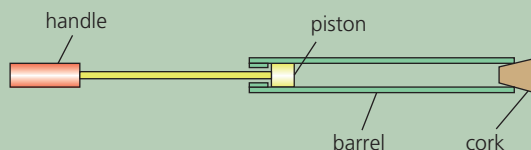

Figure Q1
1. Figure Q1 shows a child's 'pop' gun in which a piston is pushed quickly along the barrel, compressing the air in the barrel. When the pressure is high enough, the cork is expelled at high speed from the end of the barrel.
Figure Q1 shows the gun before it is 'fired'. The air in the barrel is at a pressure of $1.0 \times 10^5 \text{ Pa}$, a temperature of 290 K and the volume is $2.1 \times 10^{-5} \text{ m}^3$.